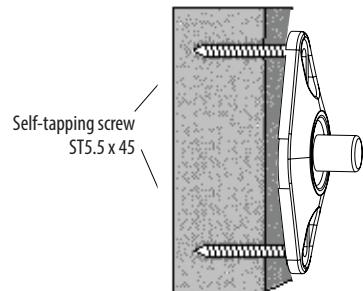

Figure 7
Note: Position the mounting holes vertically during application (see Figure 7).
3. Drill holes in drywall and wood construction using a 1/8"drill bit. These holes should be drilled to a depth of 1-7 / 8" (see Figure 7).